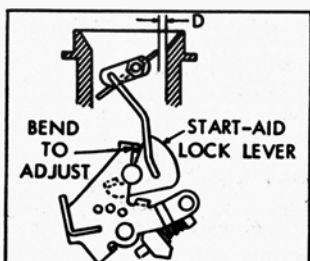

FIGURE 5
- Figure 5. Hold choke valve closed lightly, then open throttle to wide-open position. The distance "D" between choke valve and air horn wall should be as listed in table. To adjust, bend ear on throttle lever as shown.
UNLOADER ADJ. Fig.5